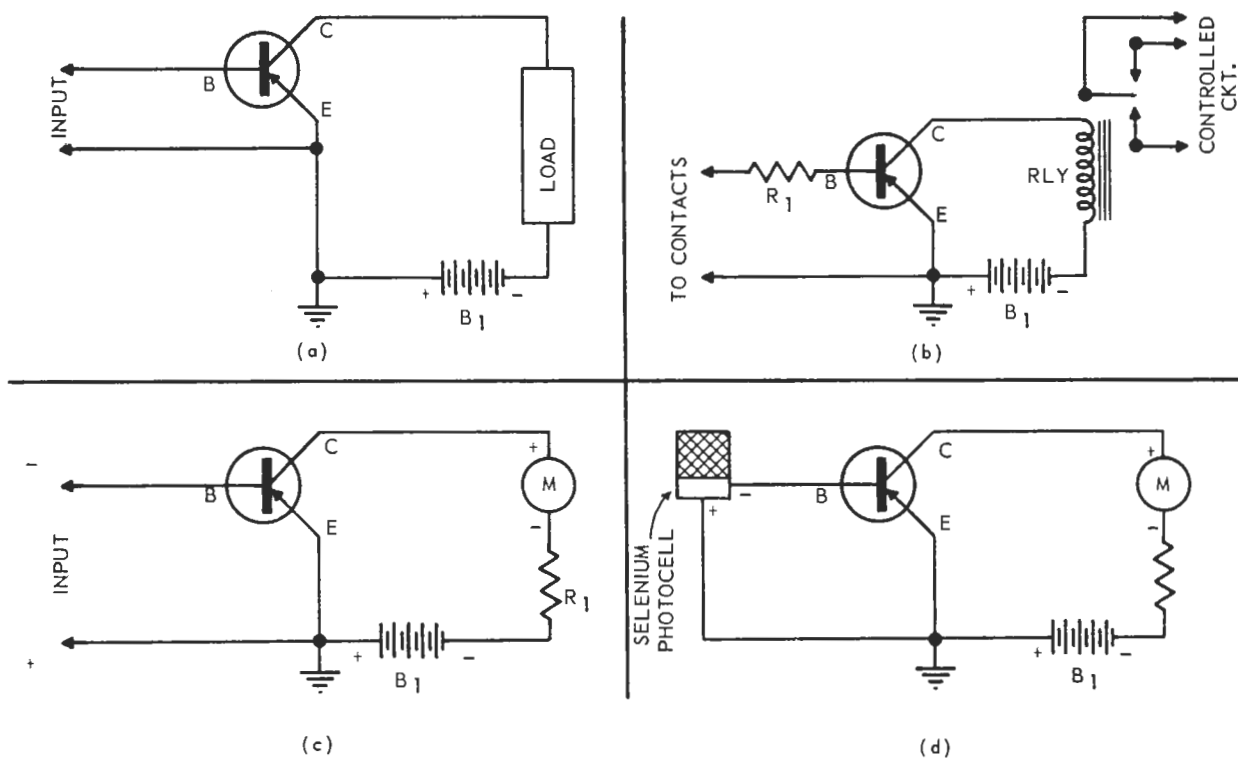

FIG. 2-2
The simplest circuit application for a transistor is as a direct-coupled direct current (D.C.) amplifier. A basic D.C. amplifier, using the common-emitter circuit configuration, is illustrated in Fig. 2-2(a).
In practical circuits, the LOAD may be any D.C. actuated device . . . a solenoid, relay, or meter. Typical applications are shown in Figs. 2-2(b), 2-2(c) and 2-2(d).
A sensitive electronic relay is shown in Fig. 2-2(b). In this case, the LOAD is a moderately sensitive electromagnetic relay (RLY) and the single power supply battery (B1) also serves as a source of base bias current. In operation, when the control “contacts” are closed, base bias current can flow, with its value determined by B1 and series resistor R_1 . A much larger collector current flow results and operates the relay. Since the collector current flow may be from 10 to 50 times the base current, the effective “sensitivity” of the relay is increased by a similar factor.
The basic circuit for a transistorized Meter Amplifier is given in Fig. 2-2(c). In this case, a small external current is measured by passing it through the transistor’s
Adding a “self-generating” selenium photocell to the basic Meter Amplifier converts the instrument into a sensitive Light Meter. This circuit is given in Fig. 2-2(d). The negative lead of the photocell connects to the base of the PNP transistor, the positive lead to the emitter. In operation, light falling on the photocell develops a small current which, in turn, serves as the base bias for the transistor. With the transistor’s gain as a multiplying factor, the meter (M) indicates a much larger current.